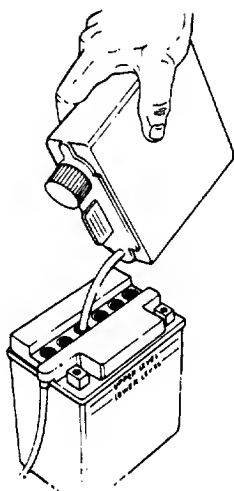

FIGURE 3.
6. Fill each battery cell slowly and carefully to the **UPPER LEVEL** line marked on battery. See figure 3. Use caution as the acid level will rise rapidly after the bottom of the cell is filled.
3. Place the battery inside the opening so that the positive terminal is toward the front of the unit. See figure 3. Route the battery drain tube down beside the battery.